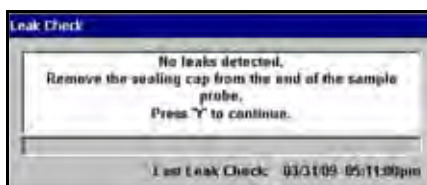

Figure 4-20 Sample Leak Check dialog box
3. Put the Leak Check Adapter Cap on the end of the Sample Probe to seal it, and press **Y**. The Leak Check process begins. The progress displays in the Leak Check dialog box. A test results message displays when the Leak Check process is complete (Figure 4-20).
4. Follow the on-screen instructions to continue (Figure 4-20).